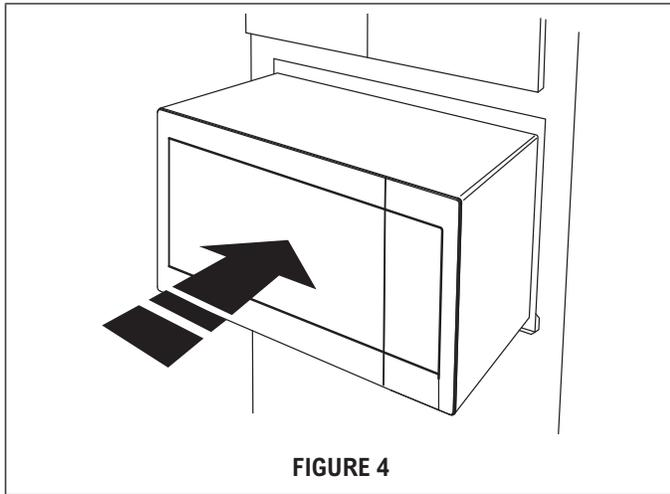

FIGURE 4
2. Carefully guide the assembled oven into the prepared opening. Slide the oven onto the EXHAUST DUCT ASSEMBLY. Avoid pinching the cord between the oven and the wall. See Figure 4.